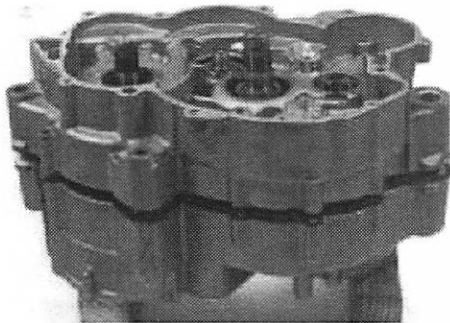

Figure 94
17. Install the opposite crankcase half (Figure 94) and gently tap it into place. Do not tap against any sealing surfaces.